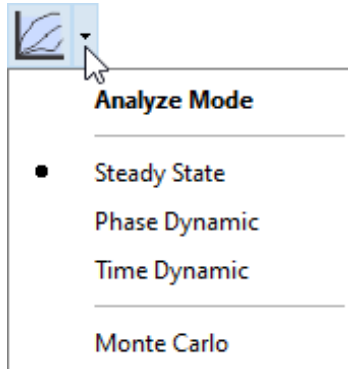

Figure 9-5 – Accessing Analyze Features
3. Select the Monte Carlo analysis from the drop-down list accessed through the **Analyze** button on the **Main Toolbar** (see **Figure 9-5**) or the **Analyze** menu item in the **Tools Menu**.